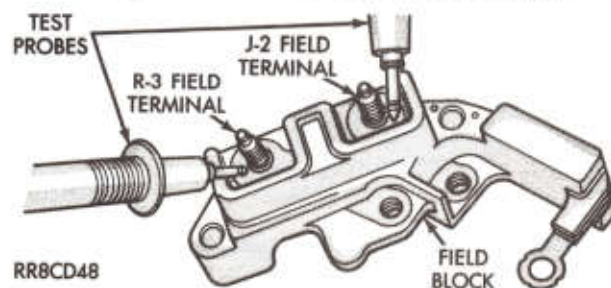

Fig. 5—Test Field Block R-2 to J-3 Terminals
(3) Test for continuity from the J-2 field terminal to the R-3 terminal; it should test open (Fig. 5).